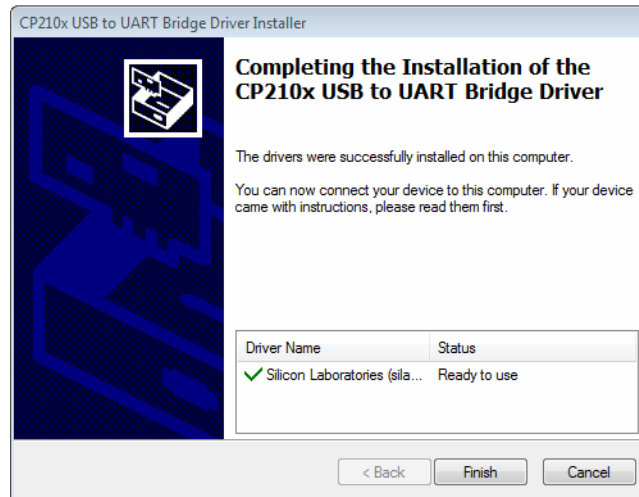

FIG. 12
14. After clicking NEXT to accept the License Agreement, the Bridge Driver installation will commence. Once complete, the screen shown in FIG. 12 will appear. Click Finish to close the Bridge Driver Installer and return to the Matrix Installer Wizard.
16. After clicking NEXT to accept the License Agreement, the Bridge Driver installation will commence. Once complete, the screen shown in FIG. 12 will appear. Click Finish to close the Bridge Driver Installer and return to the Matrix Installer Wizard.